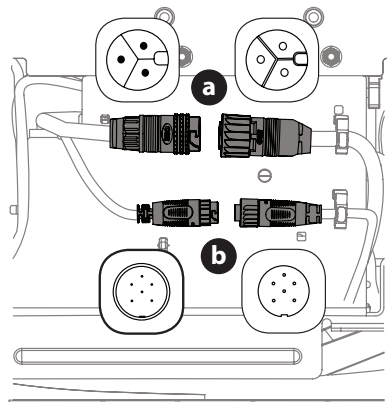

Figure 21
3. Disconnect the deck motor(s) from the adapters on the underside of the tractor. Rotate the connectors 1/4-turn counter-clockwise and pull down (Figure 21).